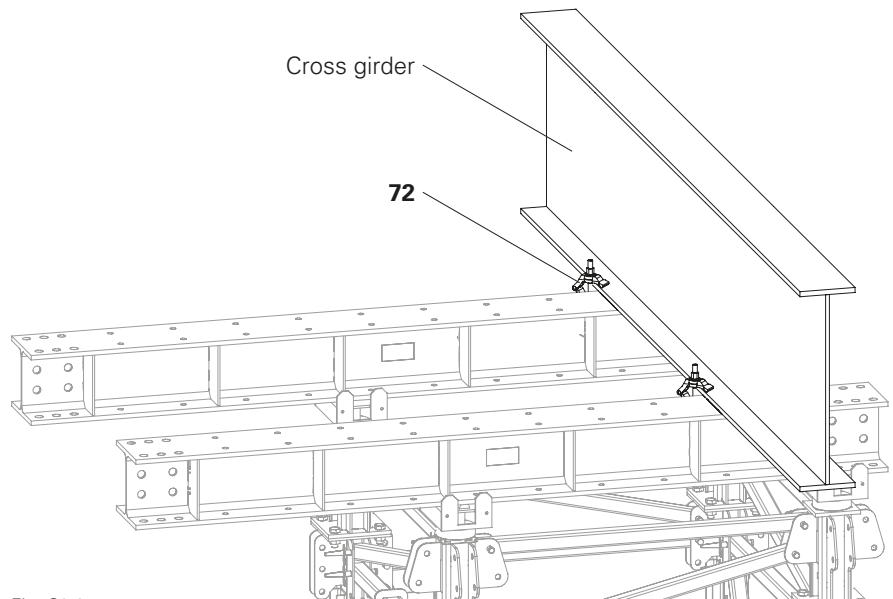

Fig. C3.01
3. Fix the cross girder to the main beam using 2x Girder Clamp HD 70 mm (**72**) per main beam. (Fig. C3.01 + C3.01a)